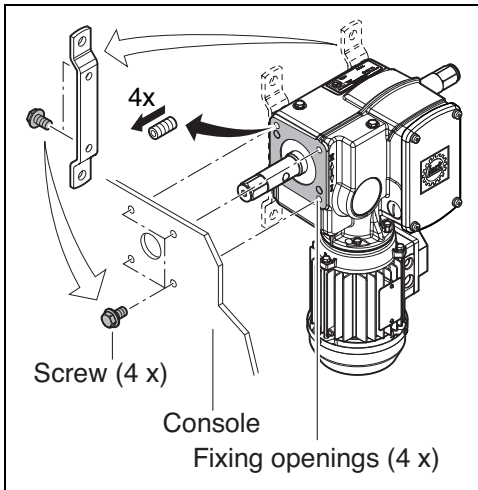

Fig. 4
- ▶ Pay attention to the screw-in depth and install the drive loosely on the console by screwing 4 screws into the fixing openings. Minimum strength of screws 8.8 (see Fig. 4).